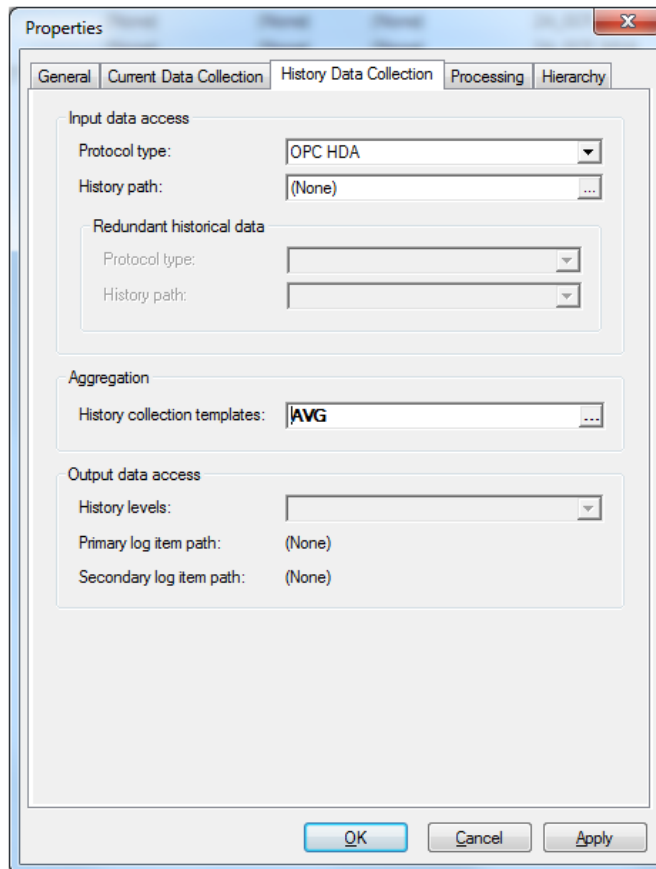

Figure 6. History Data Collection tab
7. Click **History Data Collection** tab and fill in the available fields as shown in Figure 6.